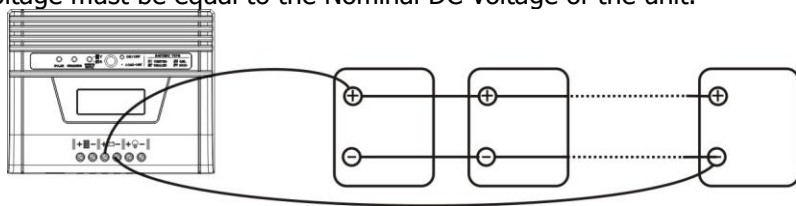

Fig. 6
- 2) Multiple batteries in parallel connection (Refer to Fig. 6):** Each battery's voltage must be equal to the Nominal DC Voltage of the unit.